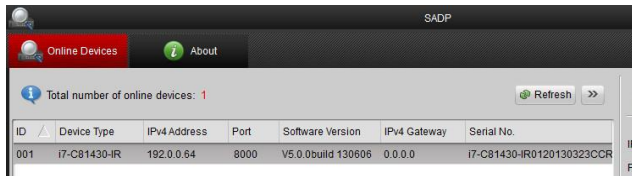

Figure 3-3 Select a Device
- 1). Select the device to be modified in the device list as shown in Figure 3-3. The network parameters of the device will be displayed in the Modify Network Parameters panel on the right side as shown in Figure 3-4.